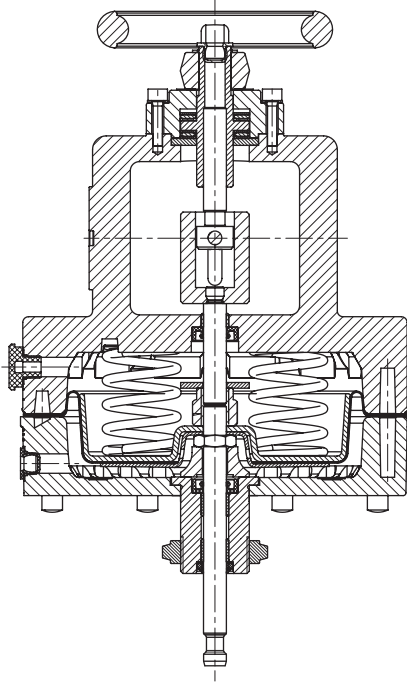

Fig. 12: Type 3271-5, "stem extends" fail-safe action, with additional handwheel
- **Type 3271-5 · 120 cm²** actuator area, die-cast aluminum housing (Fig. 4), optionally with additional handwheel (Fig. 12)